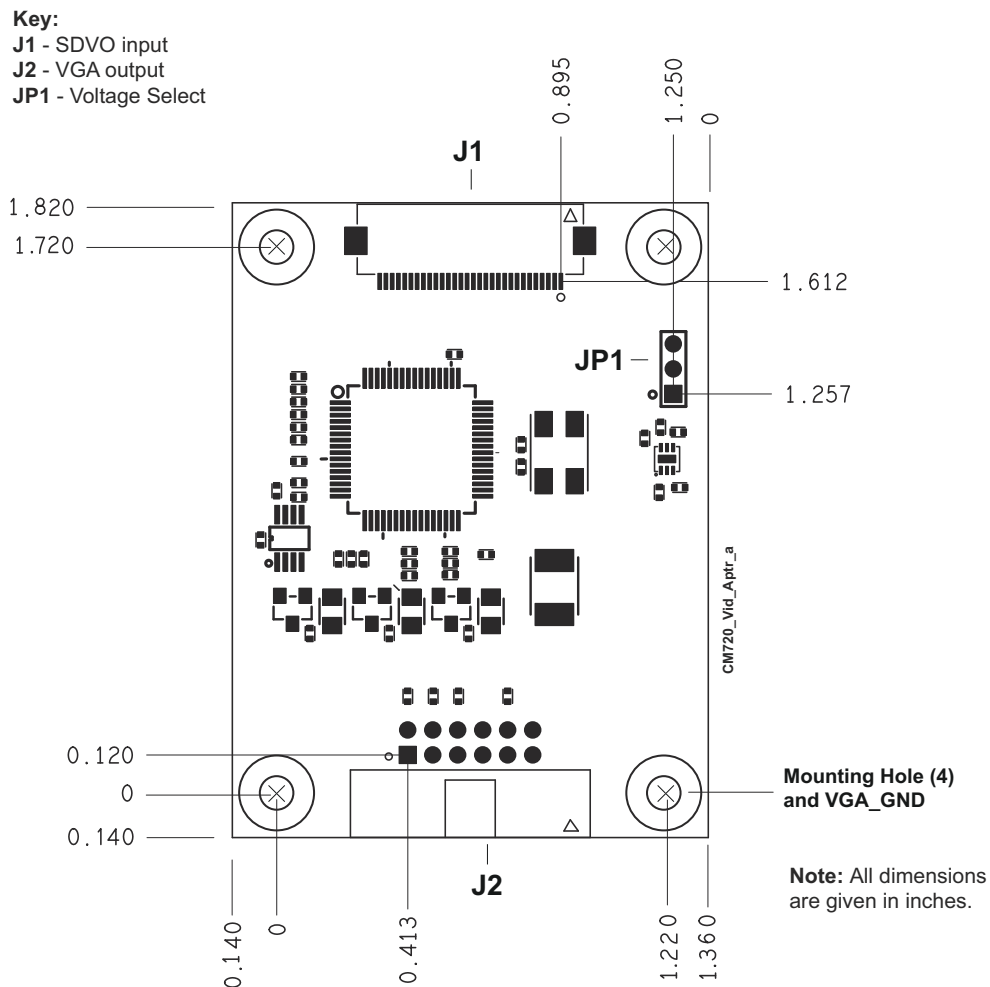

Figure B-1. Adapter Board Headers and Dimensions (Top Side)
**CAUTION** Make sure the JP1 jumper is installed on pins 2-3. Black squares on the headers of Figure B-1 indicate pin 1. Mounting hole sizes = 106 MILS.